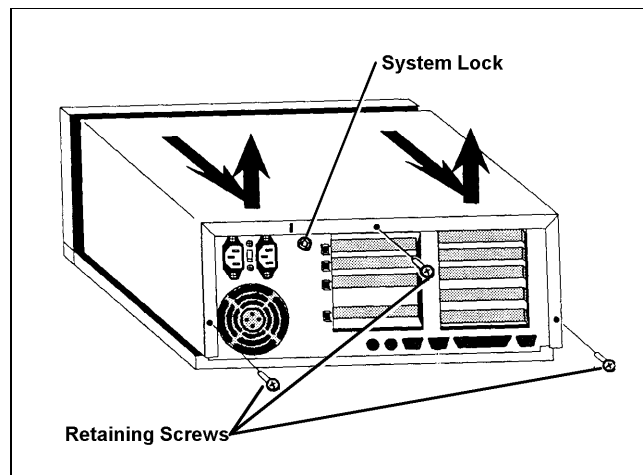

Figure 2-9. Removing the AT&T Globalyst Cover
- a. If the computer cover is locked (systems are shipped unlocked), use the key provided with the computer to unlock the system lock (Figure 2-9).
- a. If the computer cover is locked (systems are shipped unlocked), use the key provided with the computer to unlock the cover lock (Figure 2-9).